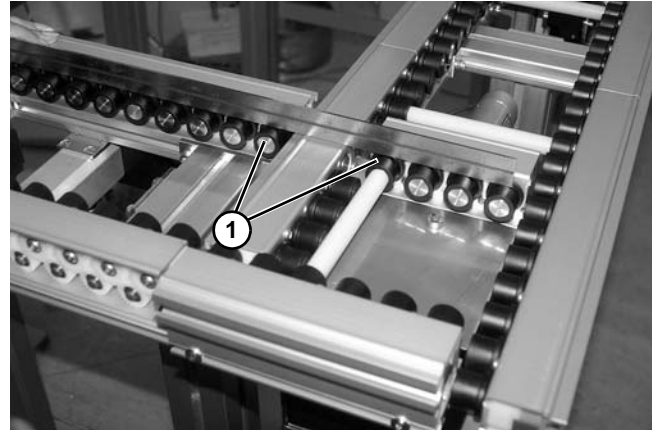

Figure 30
2. Before securing conveyor sections, verify that infeed conveyor and lift and transfer conveyor rollers (Figure 30, item 1) are level.